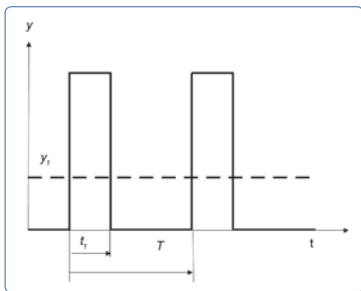

Figure 12: Progress of a rectangular signal with a period  $T$  and a pulse duration  $t_i$  for the generation of an analog signal with the value  $y_i$ .
Hamilton VisiFerm DO sensors use the method of pulse-width modulation (PWM) to adjust the DC currents of the 4–20 mA interfaces corresponding to the measured values. In principle, the pulse width ( $t_i$ ) of a rectangular signal with a constant frequency, the pulse duty factor ( $t_i/T$ ), is modulated and afterwards demodulated by a low-pass filter to generate continuous analog DC signals. The resulting value  $y_i$  corresponds to the average of the PWM signal (see Figures 12 and 13). The PWM-loads of the Sensors have low-pass filters which are not able to eliminate all AC fractions of the used PWM frequency of 5 kHz due to technical impossibilities. Therefore, the current signals of the 4–20 mA interfaces are still overlaid by a certain AC which should be masked by lag smearing or input filters of the current input card of the process control system (PCS). Recommended PCS settings are a sampling rate below 3.5 kHz, an averaging over more than 1 s, and the use of galvanically separated inputs to avoid oscillations. It is also possible to use mathematical functions or isolating amplifiers for signal processing filtering if necessary. For detailed technical advice about suitable isolating amplifiers, please contact Hamilton technical support.
**⚠ ATTENTION! The Arc sensor and VisiFerm DO generates the 4-20 mA signals by pulse with modulation (PWM) which is not compatible to all PCS systems. Also a galvanic separation between the power supply and the PCS is necessary for correct sensor functionality when used in 4-20 mA setups. Figure 12 illustrates a solution for the problem.**